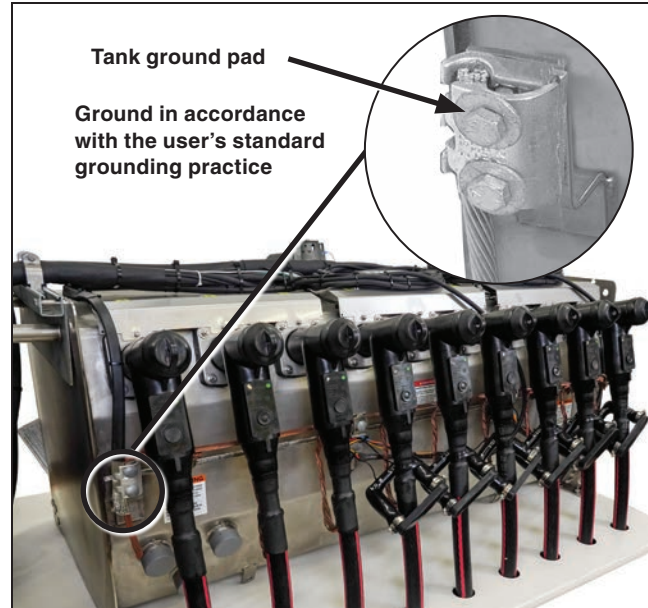

Figure 49. The tank ground pad.
- STEP 1.** Connect the cable concentric-neutral ground wires to the grounding system as appropriate. See Figure 49.